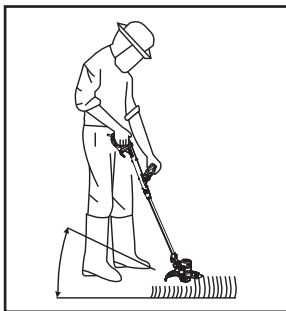

Fig. 16
1. Make sure that the knife protector (11d) is removed and the plant protector (13) is pulled out before operation.
2. Adjust the main handle (1) angle to 0° for trimming.
5. Hold the trimmer head (12) just above the ground at an angle of approximately 30° (Fig. 16).